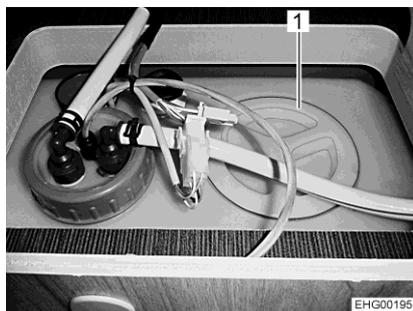

Fig. 170 Cleaning opening (water tank)
- Remove the cap (Fig. 170,1) of the water tank.